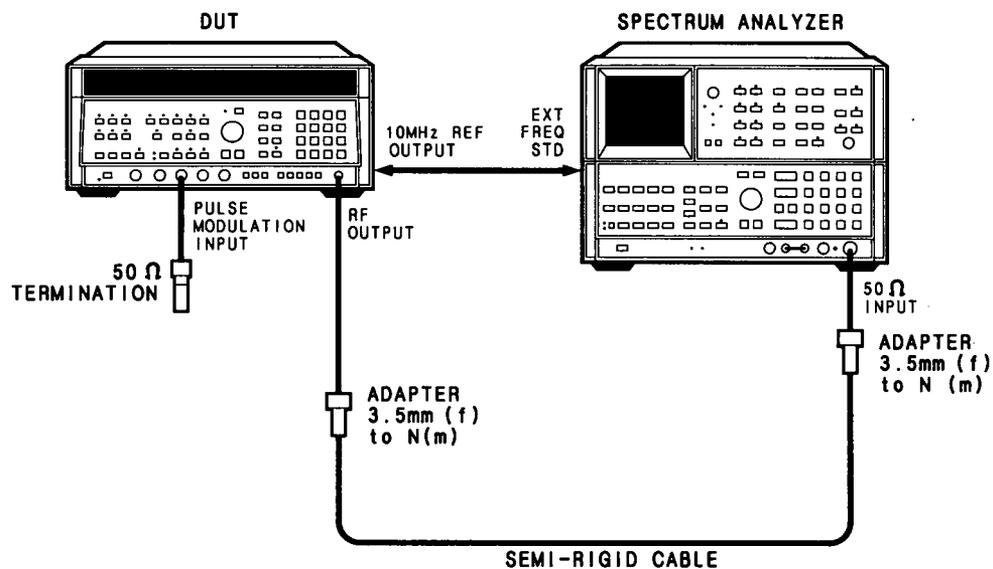

Figure 4-10. Pulse Modulation ON/OFF Ratio Test Setup
1. Connect equipment as shown in Figure 4-10. Allow a one hour warm up time.
4. Press the DUT's [**PULSE**] key (ON). The spectrum analyzer marker delta amplitude level should be greater than 80 dB.